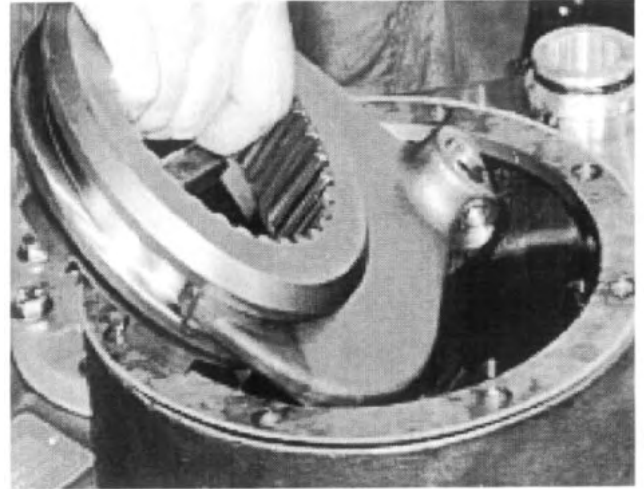

Fig. 17
18. Remove the fork and gear assembly from the front declutch housing. *See Fig. 17.*